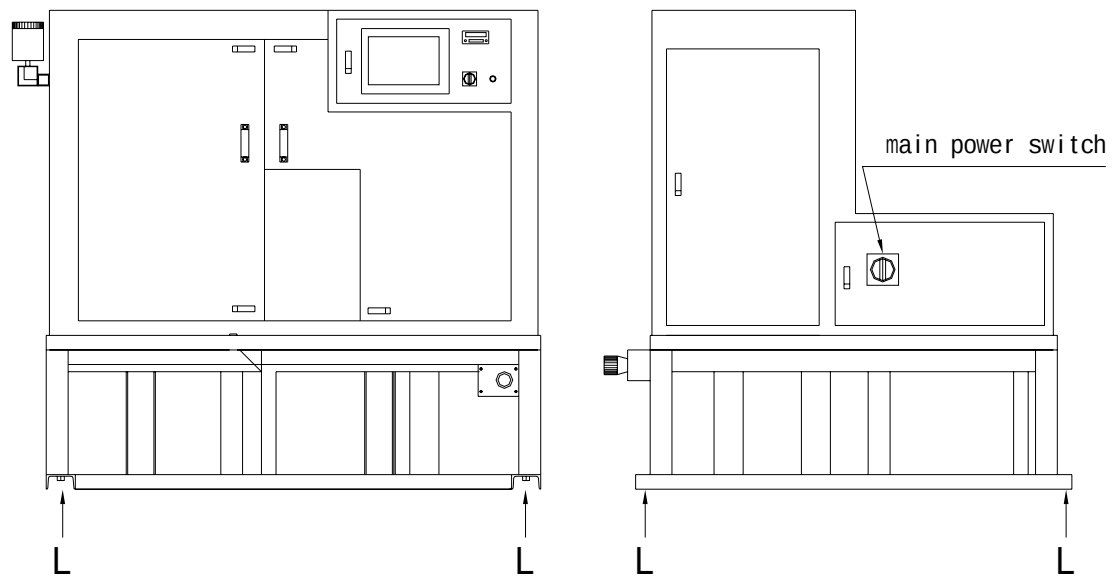

Figure 4-2 Locations of horizontal adjustment screws
- a. please adjust the machine to horizontal by 5 screws as indicated in Figure 4-2